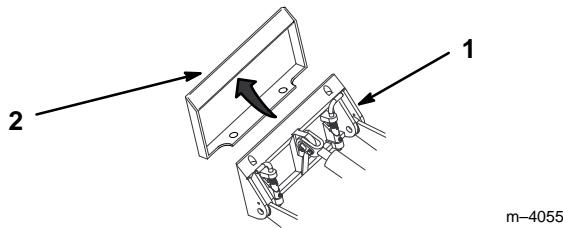

Figure 14
- Position mount plate into the upper lip of the attachment receiver plate (Fig. 14).